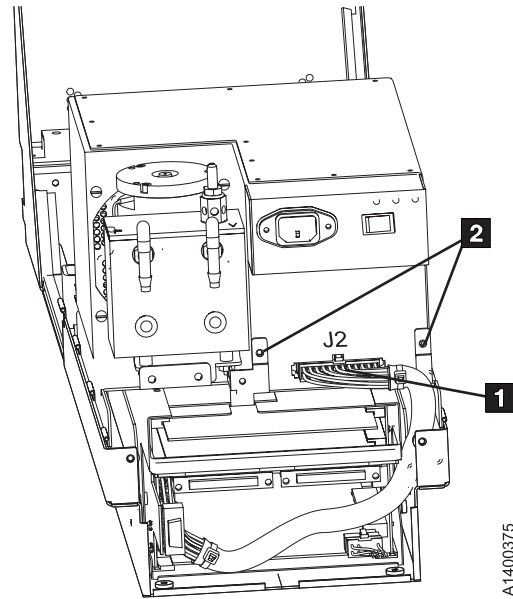

Figure 320. Power Supply (Model E11/E1A only)
4. See Figure 320. Disconnect the power distribution cable **1** from the power supply at connector J2.